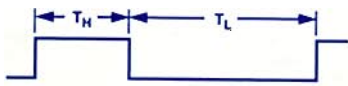

Figure 2. Mark-space ratio modulated square-wave output.
**TMP03 Output Decoding:** The TMP03 sensor uses mark-space ratio modulation (Figure 2), embodying the relationships